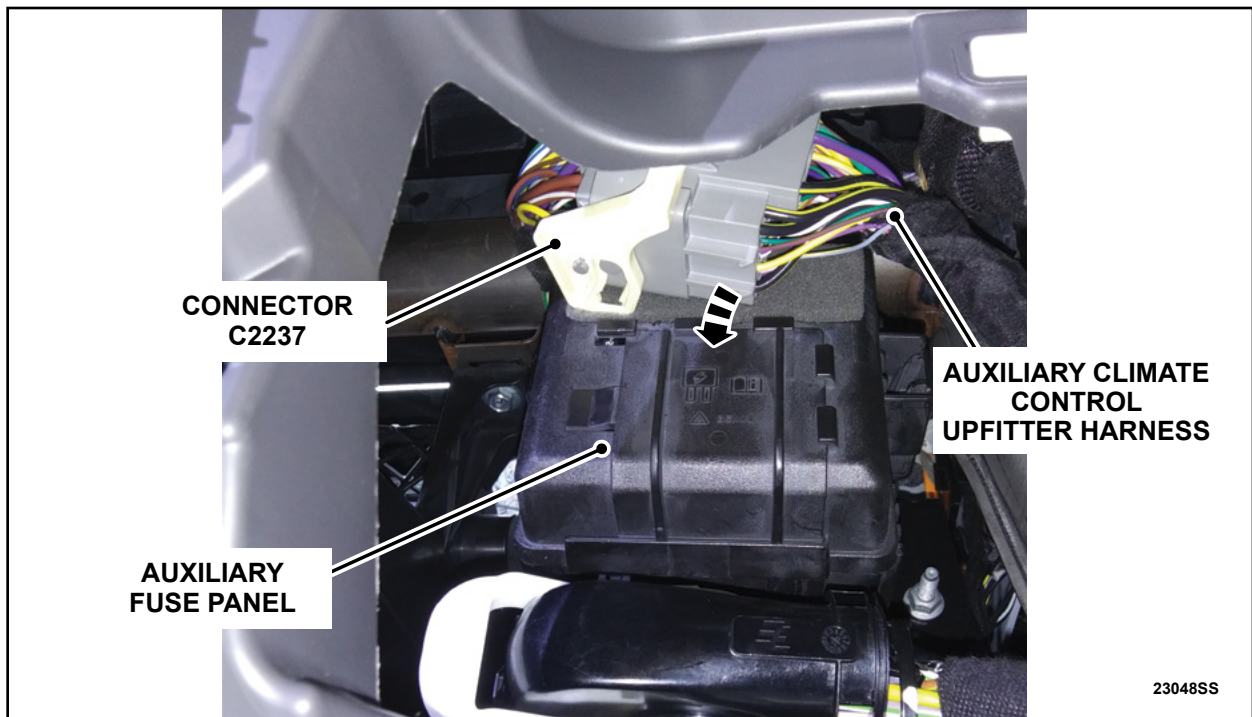

FIGURE 26
29. Release connector C2237 from the retaining slot on the auxiliary fuse panel and position the auxiliary climate control upfitter harness downward. See Figure 26.